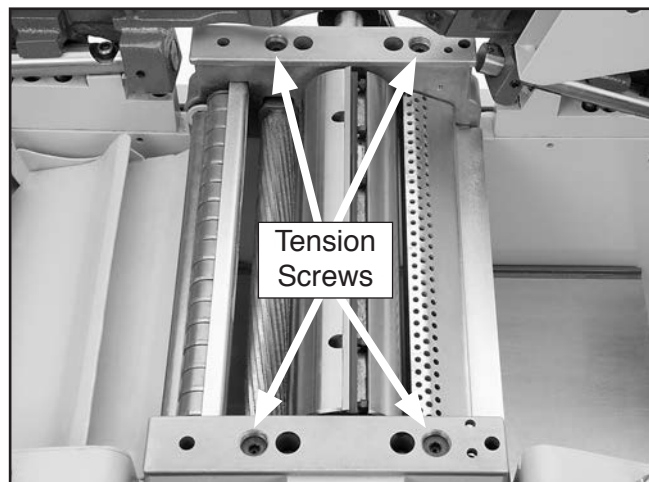

Figure 89. Spring tension screws.
2. Adjust tension screws shown in **Figure 89** counterclockwise so that they are five to seven turns below top of head casting.